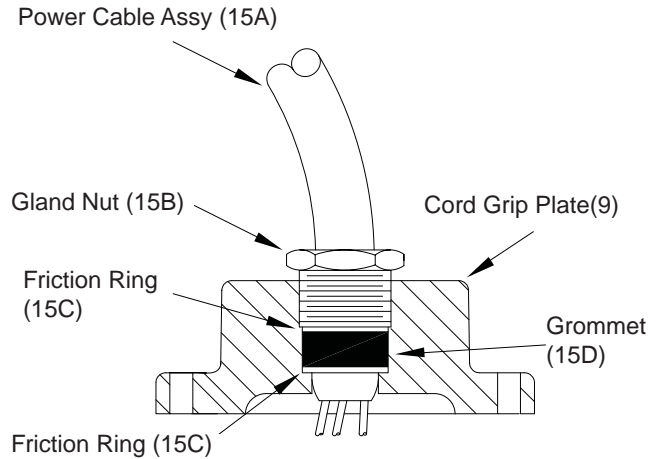
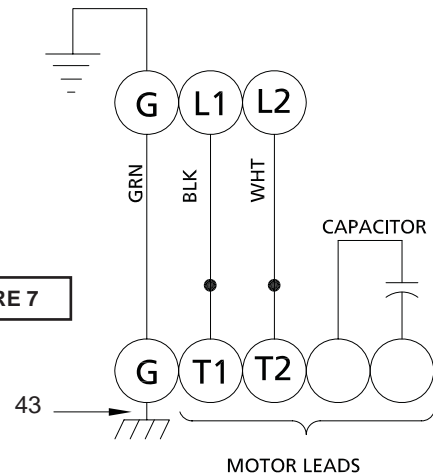

FIGURE 6
FIGURE 7
Check power cable (15A) and control cable, on cord grip plate (9), for cracks or damage and replace if required (See Figure 6). Bring motor wires through wire opening in top of housing (2), position square ring (10) in cord grip plate (9) and reconnect motor leads to power cable using connectors (11) as show in Figure 7.
Refill with cooling oil as outlined in paragraph F-1.3. Position cord grip plate (9) and square ring (10) over opening. Place lockwashers (4) on cap screws (6), apply thread locking compound (47) to cap screws (6) threads and torque to 16 ft lbs. Remove gland nuts (15B), friction rings (15C), and grommets (15D) from cord grip plate (9) inspect and replace if required (see Figures 6).